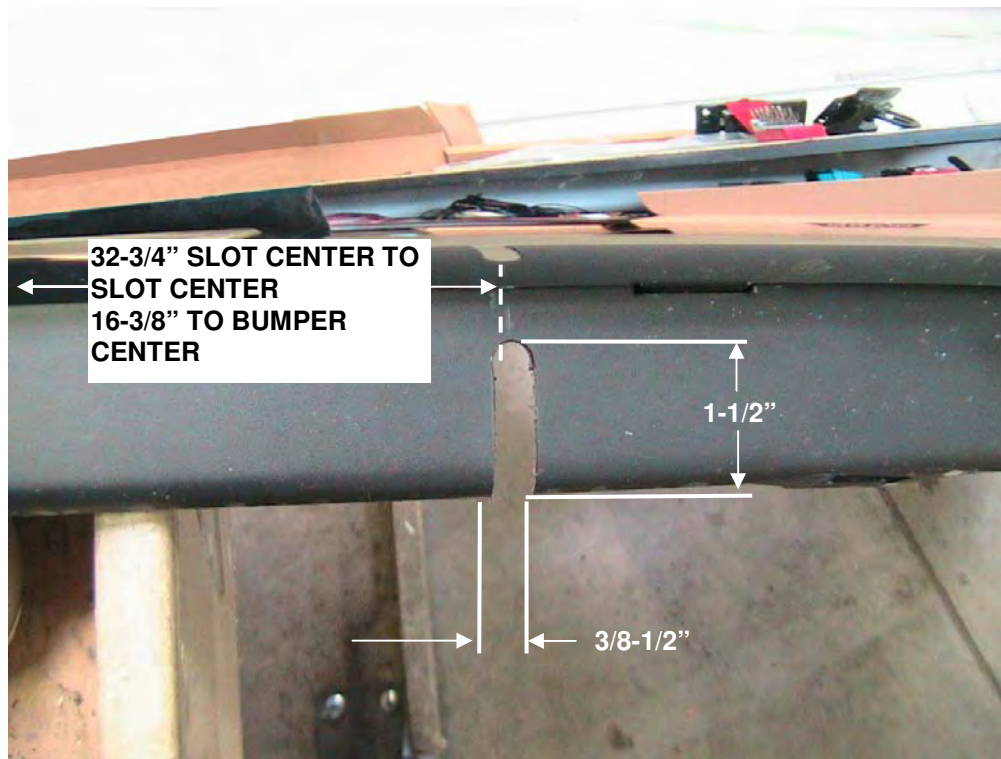

Figure 12 Slot cut into air dam
22. Cut two (2) slots in the front air dam for the Lower Braces. Determine the center of the air dam and measure out 16-3/8" in each direction for the center of the slots. Measure up 1-1/4" from the bottom edge of the air dam and mark for the drill center. Drill a 3/8 to 1/2" hole then cut from the bottom edge to the hole with a saw or knife. See **Figure 12**
23. Install the bumper. Slide the bumper mounting studs through the slots in the Frame Extensions. Only the four (4) outboard bolts are used. Install the original nuts, center the bumper and tighten.